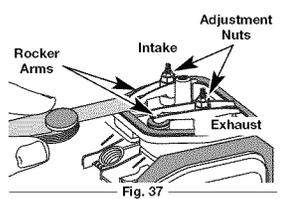

Fig. 37
7. Slide the feeler gauge between the rocker arm and the valve return spring. Measure the clearance between the valve stem and rocker arm (Fig. 37). Measure both the intake and exhaust valves.
The recommended clearance for both intake and exhaust is .003 – .006 in. (.076 – 0.152 mm). Use a standard automotive .005 in. (0.127 mm) feeler gauge. The feeler gauge should slide between the rocker arm and valve stem with a slight amount of resistance, without binding. See Figures 37 and 38.